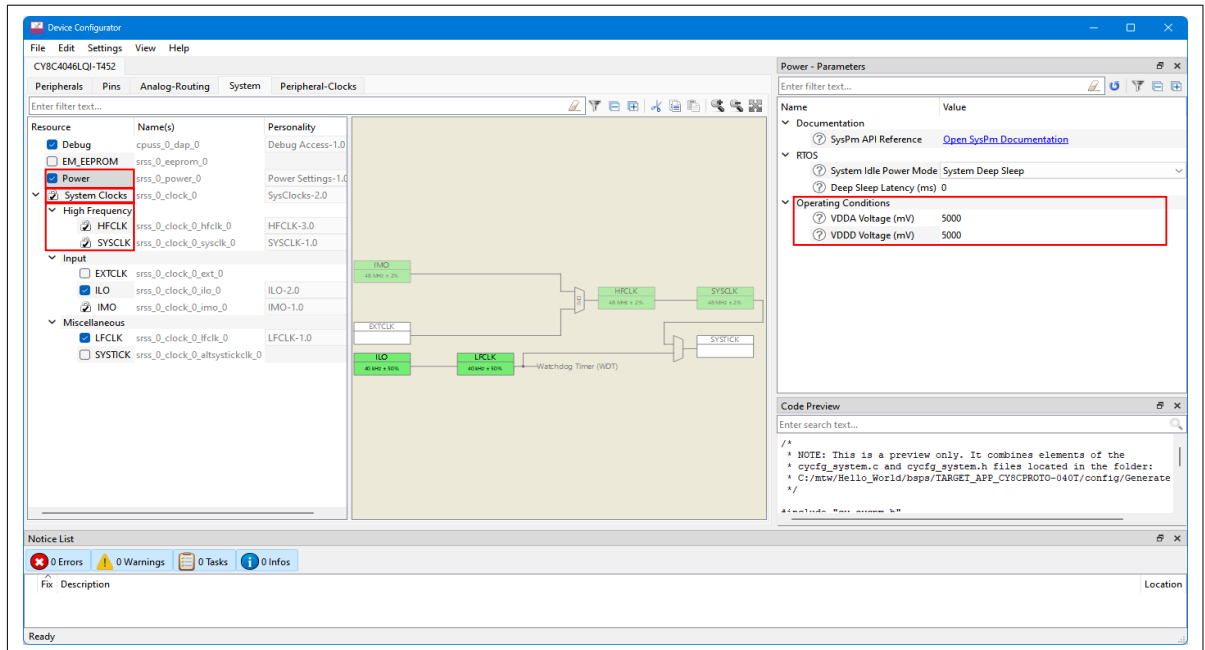

Figure 24 Configuring System Settings
5. Other resources like power, frequency and clock can be configured in the System tab of the Resource Categories Pane. Default Power settings are shown in Figure 24. For this design, no further changes are required.